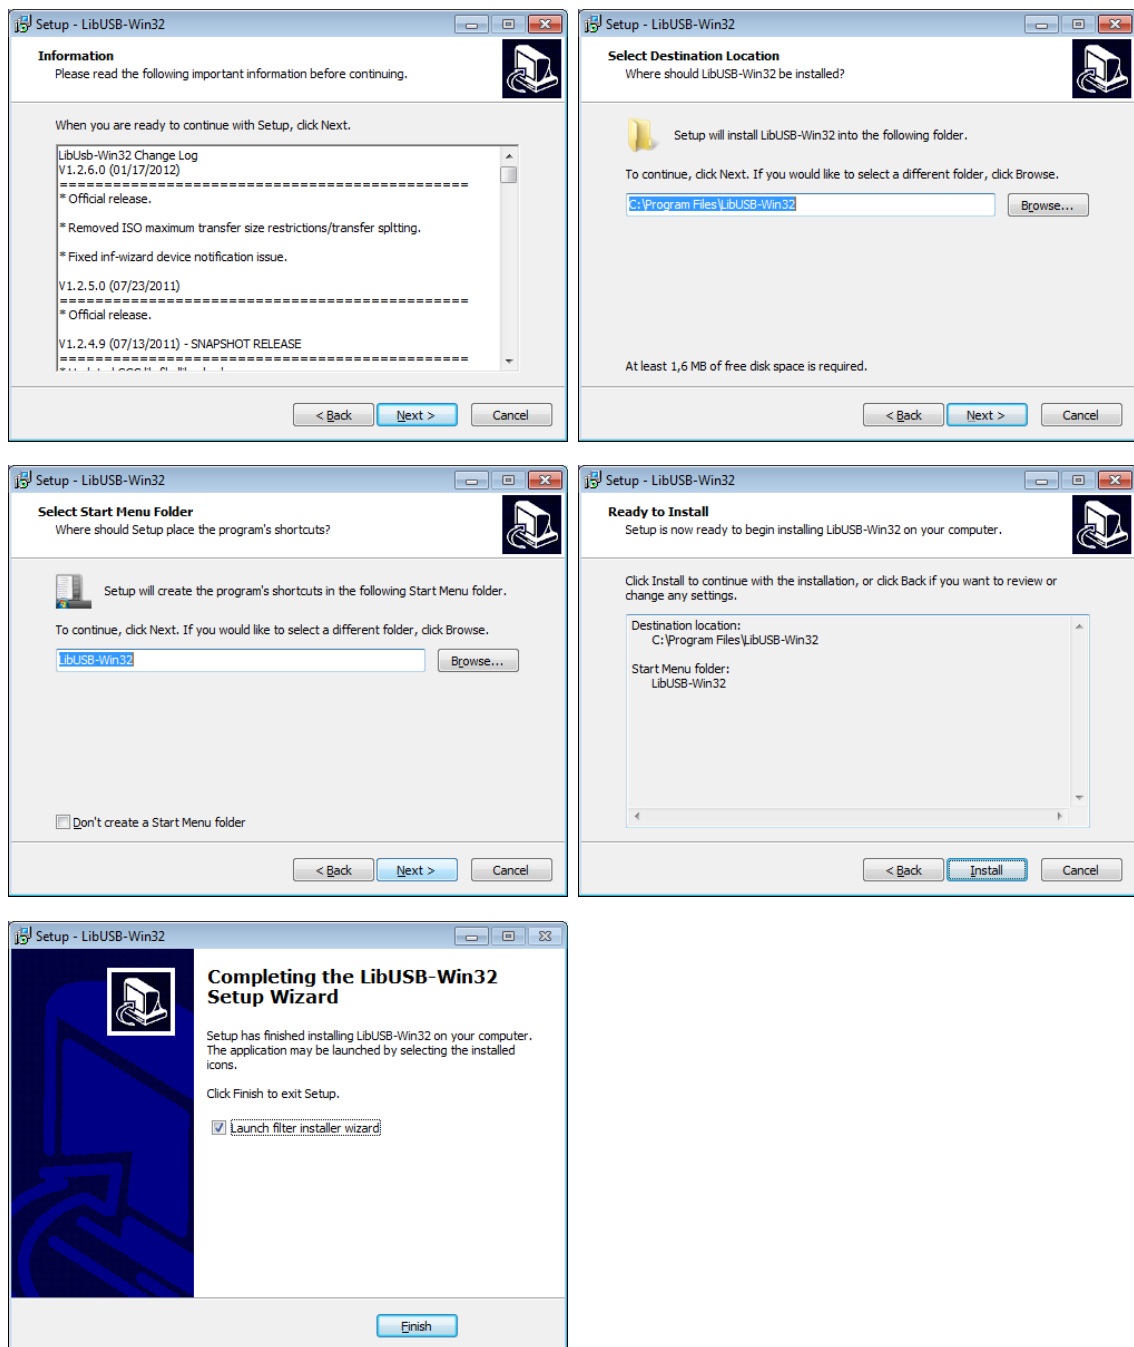

Figure 4.1.
2. Then run **libusb-win32-devel-filter-1.2.6.0.exe**, which can be found in the folder '`<grmon-win32>/share/grmon/`', where `grmon-win32` is the path to the extracted win32 folder from the the GRMON archive. This will install the libusb filter driver tools. Step through the installer dialog boxes as seen in Figure 4.1 until the last dialog.